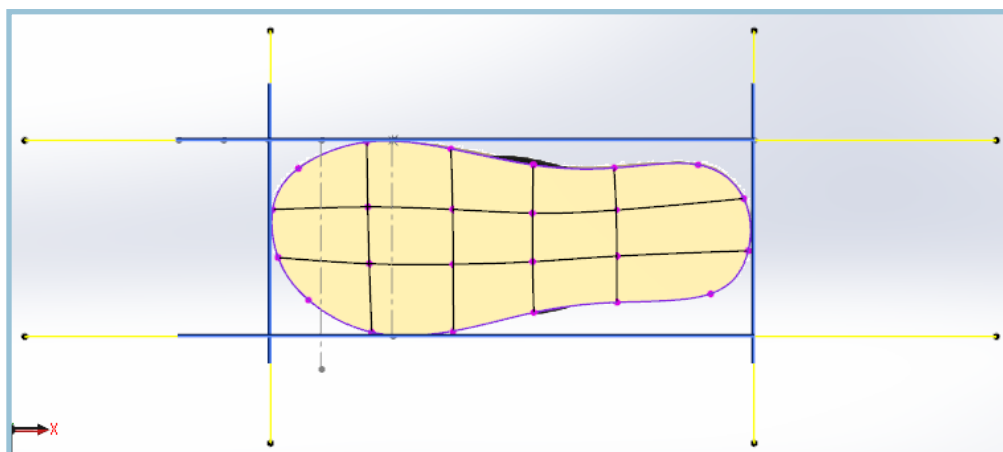

Figure 32 – The sizing planes added using Import Constraint, the SubD created to match the image template and the vertices set to Spatial Constraint
In the following example, an image was used in a sketch picture to create a template for a size 8 flip-flop sole. Construction lines were also created for a size 12, (Figure 32). The SubD was built using the template image for the size 8 sole.
3. Select all of the vertices that will be scaled and add Spatial Constraint, to them, (Figure 32).